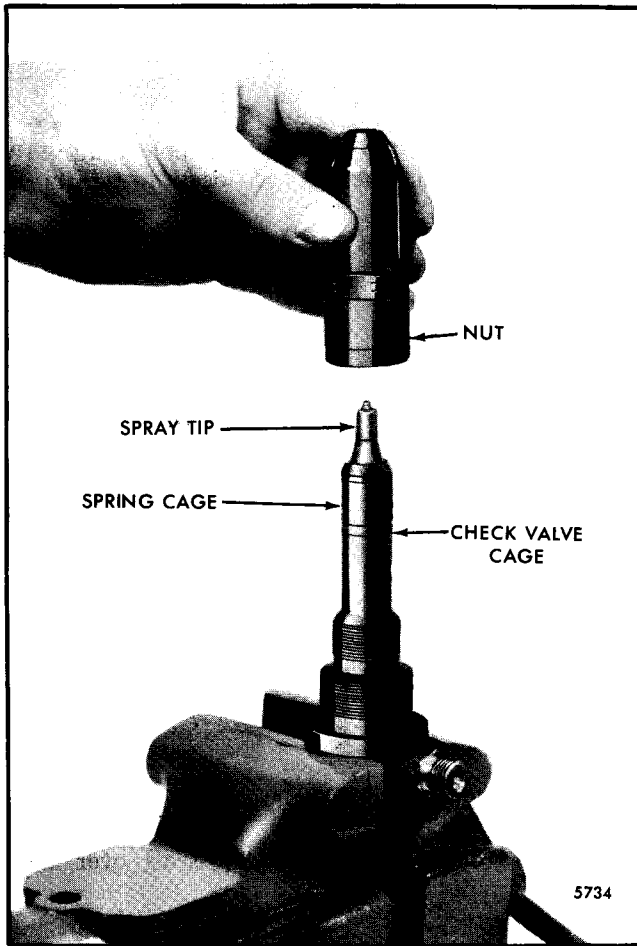

Fig. 14 - Assembling Injector Valve Parts on Tip Tester Adaptor J 23010-129
2. Carefully pilot the injector nut over the spray tip and valve parts and thread it onto the adaptor (Fig. 14).